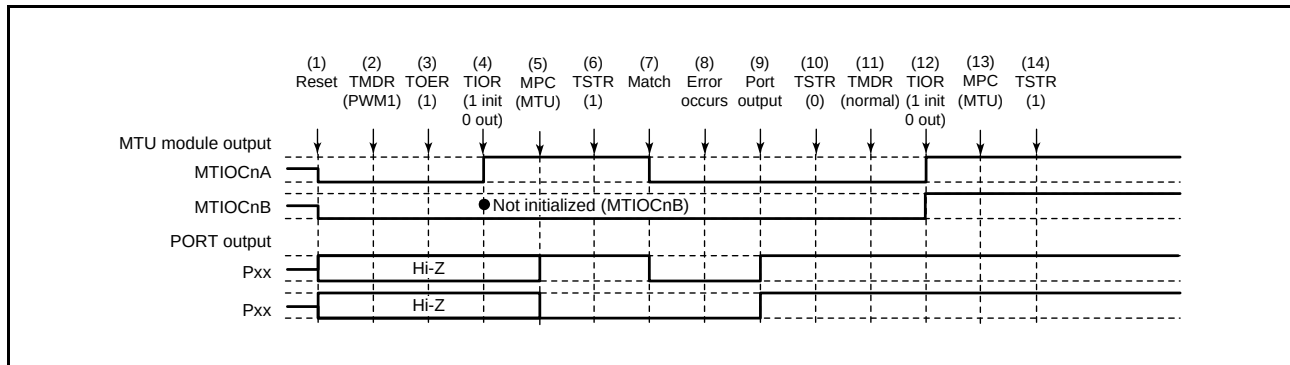

Figure 23.122 Error Occurrence in PWM Mode 1, Recovery in Normal Mode
Figure 23.122 shows a case in which an error occurs in PWM mode 1 and operation is restarted in normal mode after re-setting.
(1) to (10) are the same as in Figure 23.122.
(11) This step is not necessary when restarting in PWM mode 1.
(12) Initialize the pins with the TIOR register. (In PWM mode 1, a waveform is not output on the MTIOCnB (MTIOCnD) pins. If a level is to be output, make the required general output port settings in the I/O port's port direction register (PDR) and port output data register (PODR).)
(13) Use the MPC and the port mode register (PMR) for the I/O port to set up MTU output.
(14) Restart operation by setting the TSTR register.
(11) Set PWM mode 2.
(12) Initialize the pins with the TIOR register. (In PWM mode 2, a waveform is not output on the cycle register pins. If a level is to be output, make the required general output port settings in the I/O port's port direction register (PDR) and port output data register (PODR).)
(11) Set the phase counting mode.
(12) Initialize the pins with the TIOR register.
(11) Set normal mode to initialize the normal mode waveform generation block.
(12) Initialize the PWM mode 1 waveform generation block with the TIOR register.
(13) Disable operation of the PWM mode 1 waveform generation block with the TIOR register.
(14) Disable output in MTU3 and MTU4 with the TOER register.
(15) Select the complementary PWM mode output level and enable or disable cyclic output with the TOCR register.
(16) Set complementary PWM mode.
(17) Enable output in MTU3 and MTU4 with the TOER register.
(18) Use the MPC and the port mode register (PMR) for the I/O port to set up MTU output.
(19) Restart operation by setting the TSTR register.